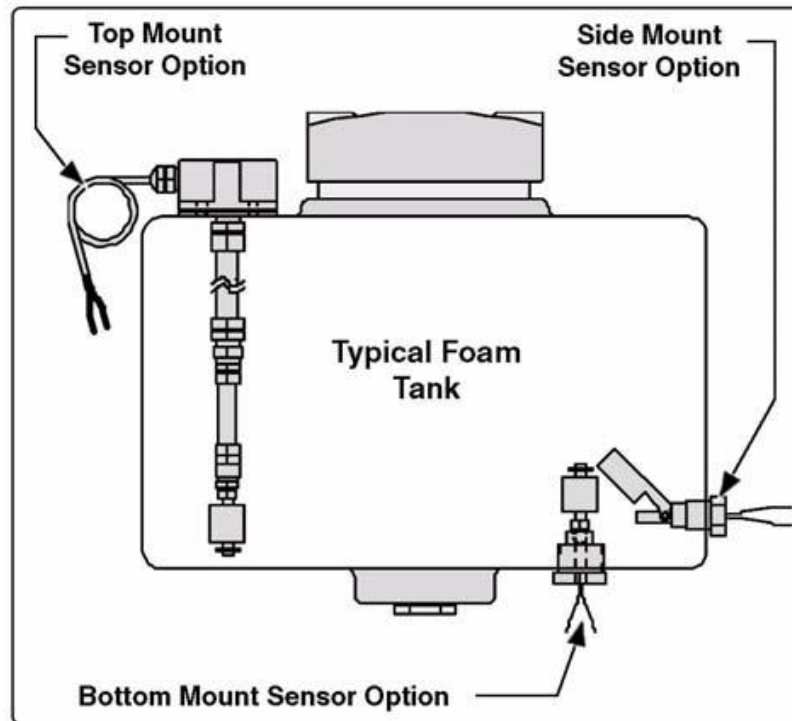

Figure 39: Low Level Sensor Mounting Options
The foam low tank level sensor(s) must be installed and wired to monitor the foam concentrate level (see Figure 39: **Low Level Sensor Mounting Options**).
3. Coat the threads of the sensor with a suitable sealant and insert into tank fitting. Tighten sensor making sure the float is on the top of the sensor (see Figure 39: **Low Level Sensor Mounting Options**).